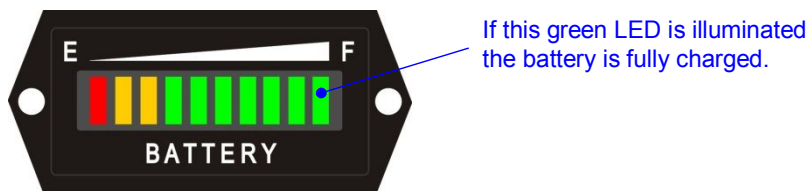

Fig. 5: Charge indicator
The battery's charge level is monitored through a charge indicator according to figure 5. Light-emitting diodes (LED) in the signal colors green, yellow and red indicate the current charge level after the counterweight balancer has been turned on.
- ⇒ the visual inspection of the battery's charge level shown on the charge indicator (see fig. 5).